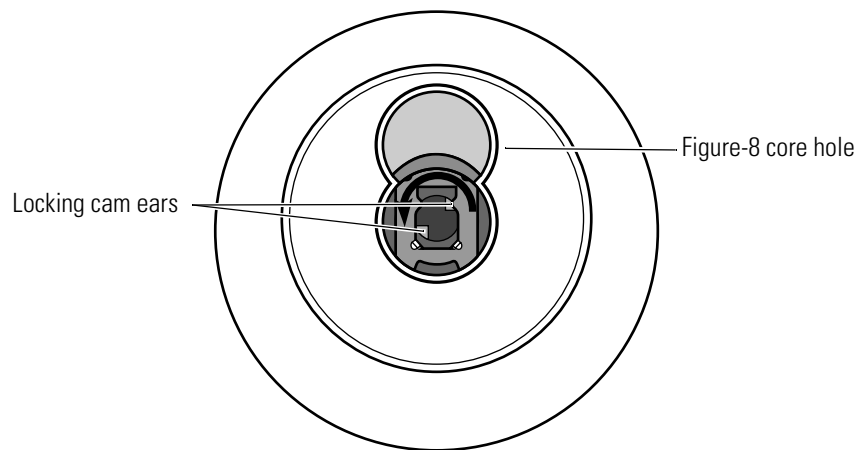

Figure 3.26 Correct position of the C function inside locking cam
- Before you install the core and throw member, you can see that the inside locking cam is not positioned as shown in Figure 3.26. Perform the following steps to reposition the inside locking cam.
1. Be sure the inside knob locking cam, which engages the throw member, is rotated. Looking into the figure-8 core hole in the inside knob, turn the locking cam ears to match the position shown in Figure 3.26.